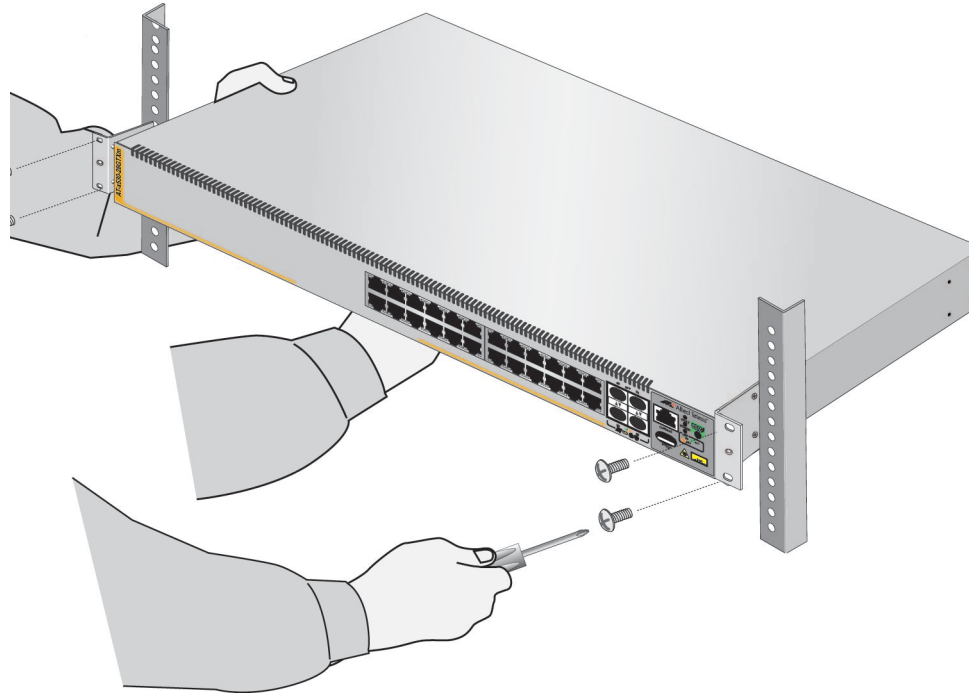

Figure 34. Installing the Switch in an Equipment Rack
3. Have another person hold the switch at the desired location in the equipment rack while you secure it using four standard equipment rack screws (not provided). Refer to Figure 34.